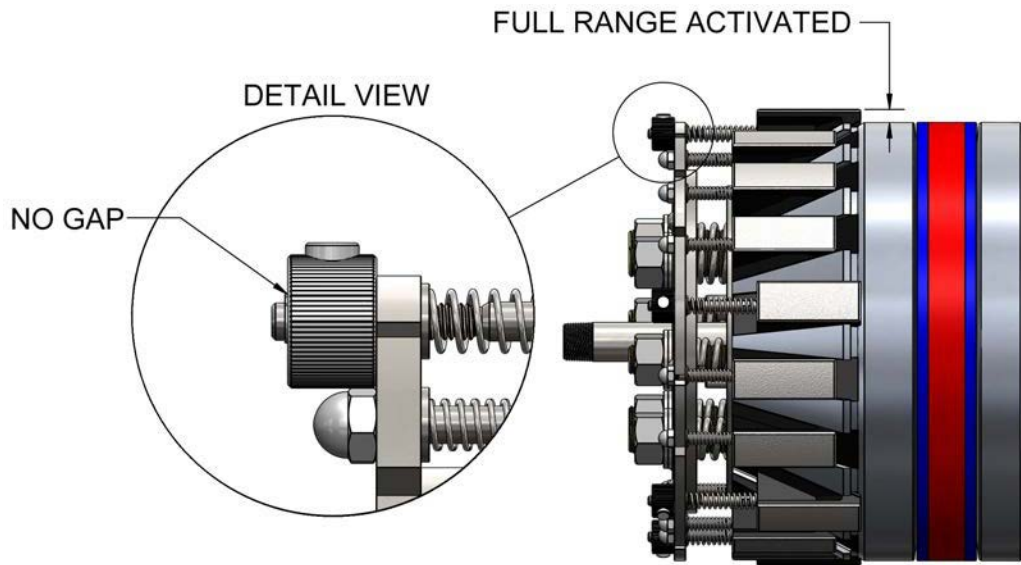

Figure 11: Selected Wedges Auto-Locking Technology **Correct** Ready to Install State
- Plugs fitted with SWAT must be in the “Correct Ready to Install State,” see Figure 11, when inserting it into the pipe.
- In the “Correct Ready to Install State,” **Speed Nuts(1)** are at the top of the **Wedge Gripper Stems(2)** with no gap between the **Speed Nut(1)** and its retainer ring, see Figure 11 – *DETAIL VIEW*. There must be **NO GAP** present between the **Speed Nuts(1)** and its retainer ring when installing the plug to ensure proper activation of the SWAT.